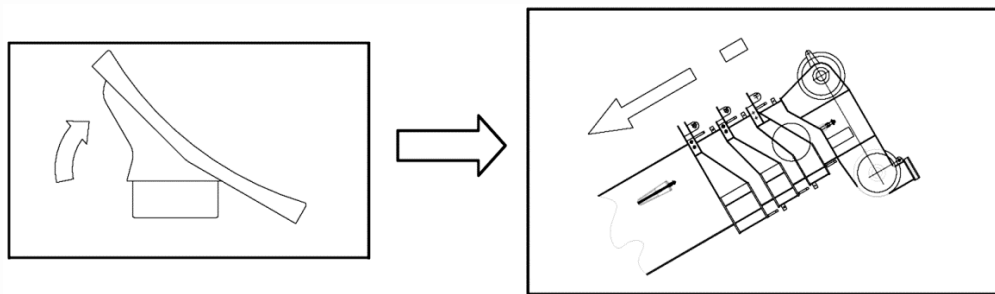

Figure 07 – 22 Telescopic Sections - Retract
- Tilt the pedal backward to retract the telescopic sections 1, 2 and 3. Refer to Figure 07 – 22.